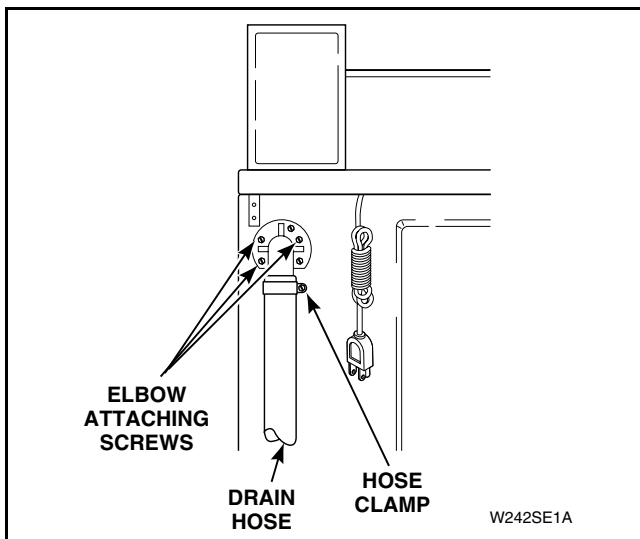

Figure 26
- Loosen hose clamp and remove drain hose from elbow. Refer to *Figure 26*.
- Remove screws holding elbow to rear of washer cabinet. Refer to *Figure 26*.